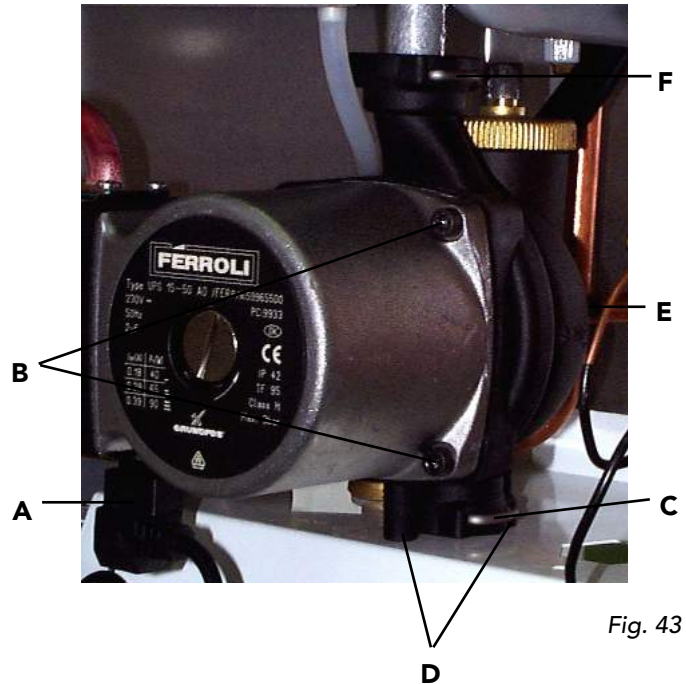

Fig. 43
7.14 Pump (fig. 43)
Replacement of pump body (fig. 43)